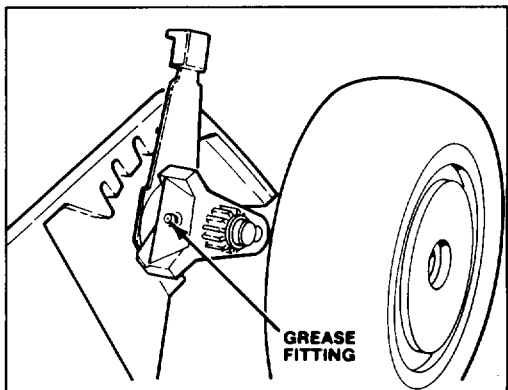

Figure 17
2. GREASE FRONT AXLE PIVOTS (Fig. 17) – Adjust height-of-cut to 3-inch setting and loosen wheel bolt to get additional clearance around grease fitting. Wipe grease fitting with clean rag. Install grease gun onto fitting and gently apply 2 or 3 pumps of #2 Multi-Purpose Lithium Base Grease. Excess pressure may damage seals.